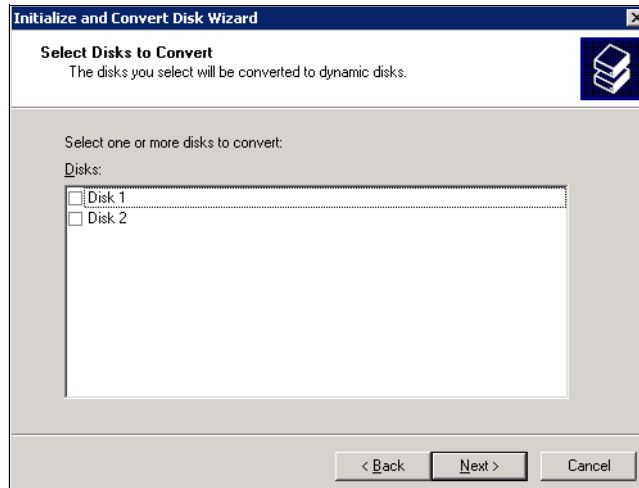

Figure 25-15 Select disks to convert
3. If you want to convert one of the disks to a dynamic disk, mark it here and click **Next** (Figure 25-15 on page 621). However, dynamic disks are not supported for Microsoft Cluster, so we will not do this.